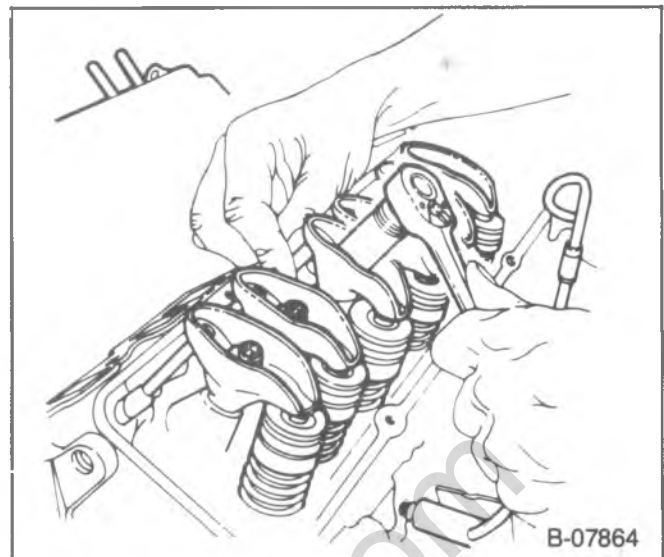

Figure 4—Adjusting the Valves
4. Back out the adjusting nut until lash is felt at the pushrod then turn in the adjusting nut until all lash is removed. This can be determined by rotating the pushrod while turning the adjusting nut (figure 4). When the play has been removed, turn the adjusting nut in one full additional turn (to center the lifter plunger).